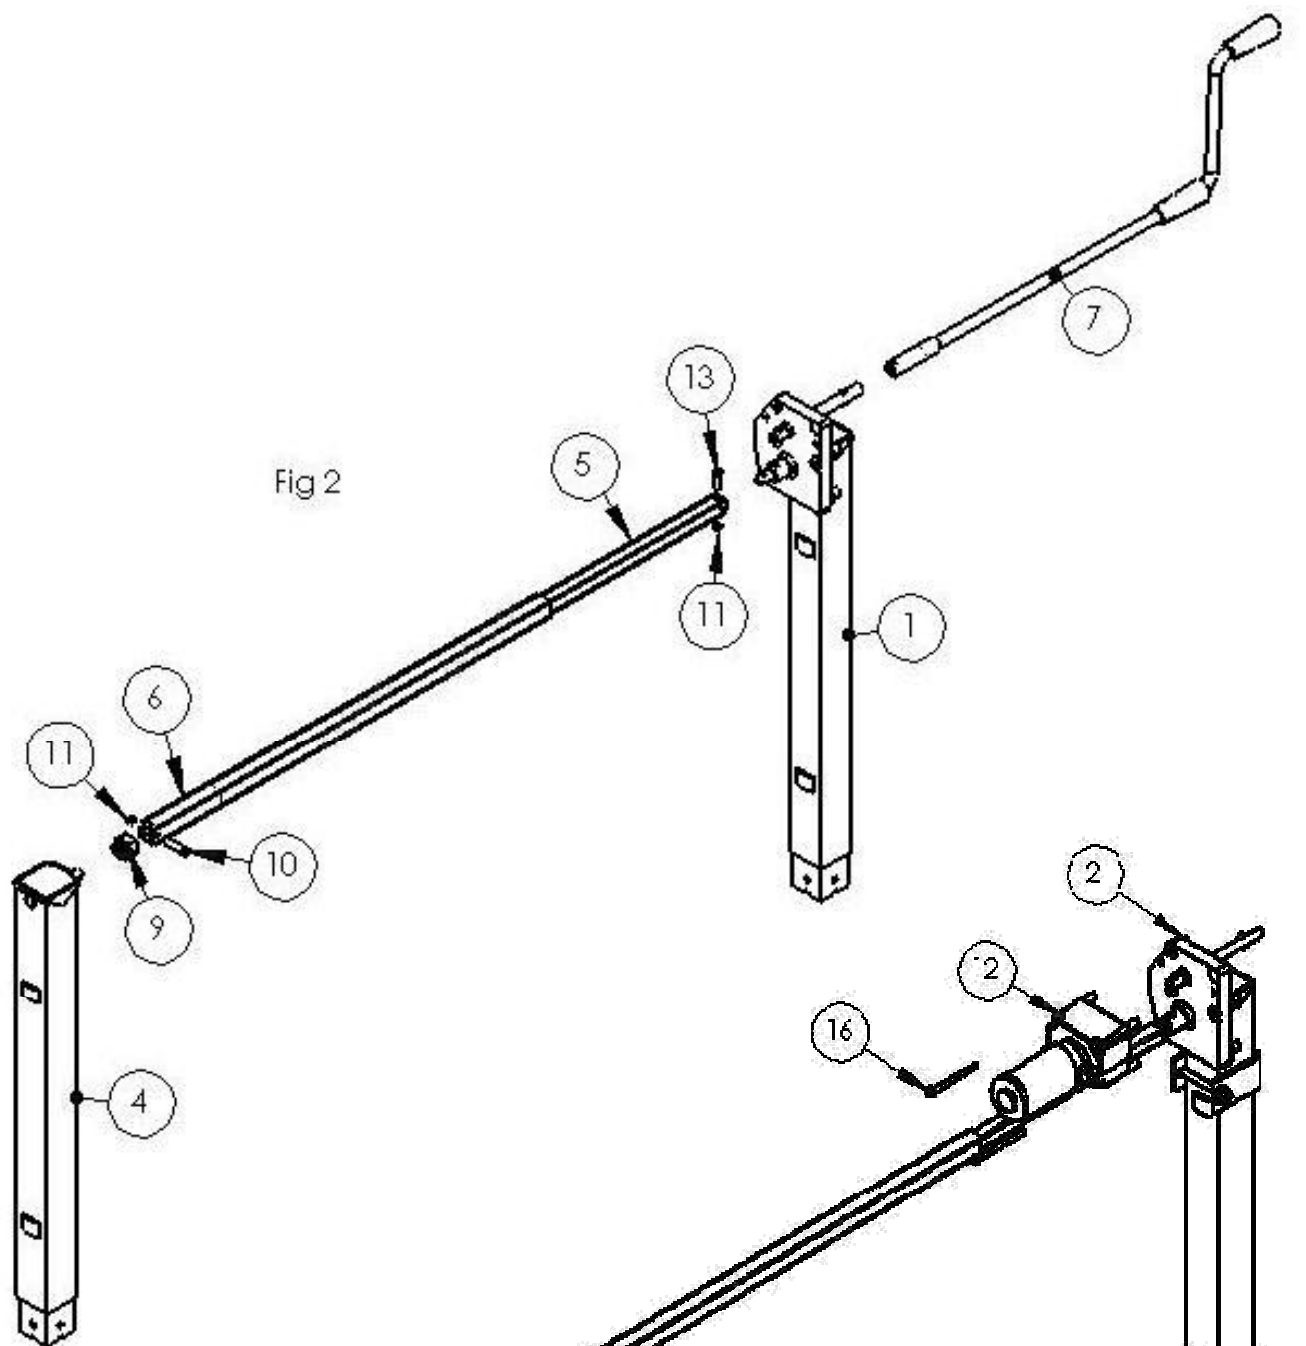

Fig 2
8. Assemble the cross shaft, if used, by placing undrilled end of  $\frac{3}{4}$ " square tube (**FIG 2 #5**) into open end of 1" square tube (**FIG 2 #6**).
9. Attach both landing legs to frame. Fully retract both landing legs before attaching cross shaft. Fasten drilled end of  $\frac{3}{4}$ " square tube to end of shaft through gear box with  $\frac{3}{4}$ " x 1  $\frac{1}{4}$ " long (**FIG 2 #13**) bolt and lock nut. Bolt end of 1" square tube with insert (**FIG 2 #9**) to shaft driven leg with  $\frac{3}{4}$ " x 1  $\frac{1}{2}$ " long bolt (**FIG 2 #10**) and lock nut.